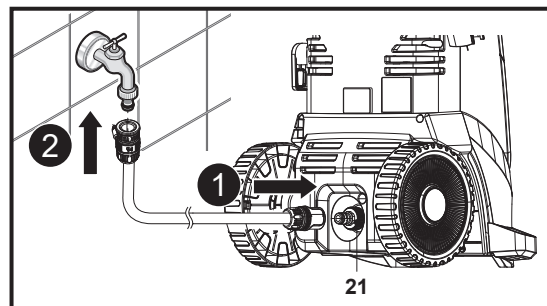

Fig. 8
2. Attach garden hose to the water inlet adaptor (21) on the water inlet connector (13) of the machine (Fig. 8, step 1). Always use a standard coupling for water inlet. The hose length cannot be greater than 8 m in length for proper operation.
3. Connect the other end of garden hose to a water supply (Fig. 8, step 2).